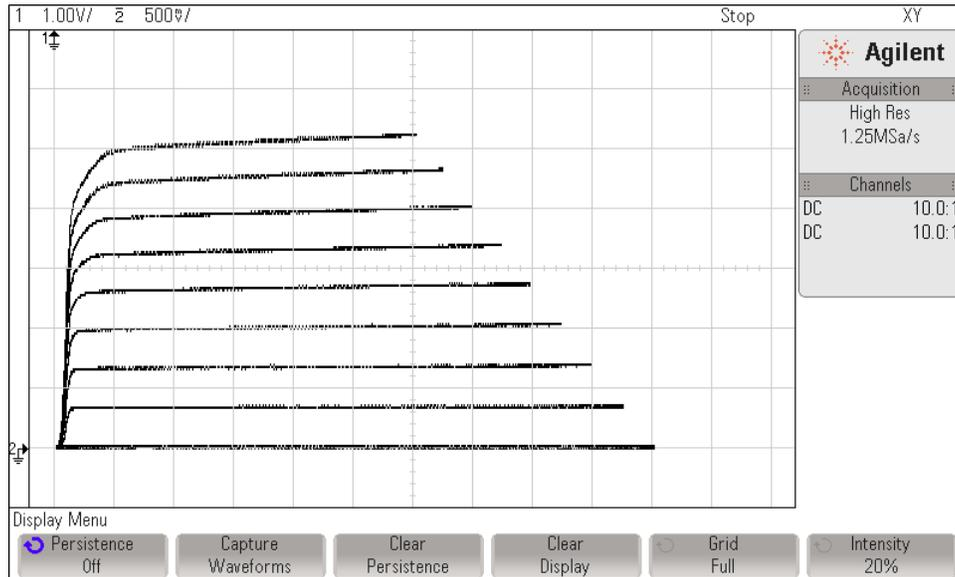

Figure 3. Family of Curves.
14. Decrease I_B by $\Delta I_B = 20\mu A$ and repeat step 5 until $I_B = 0\mu A$. You should end up with a display like the one shown in Figure 3.